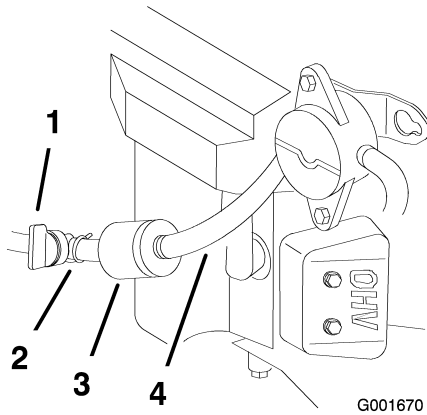

Figure 39
- Close the fuel shutoff valve (Figure 39).
- Squeeze the ends of the hose clamps together and slide them away from the filter (Figure 39).
- Install a new filter and move the hose clamps close to the filter (Figure 39).
- Loosen the hose clamp at the fuel filter and slide it up the fuel line away from the fuel filter (Figure 39).
- Disconnect the fuel line from the fuel filter (Figure 39).
Note: Allow gasoline to drain into a fuel container can or drain pan (Figure 39).
- Install the fuel line onto the fuel filter. Slide the hose clamp close to the fuel filter to secure the fuel line (Figure 39).